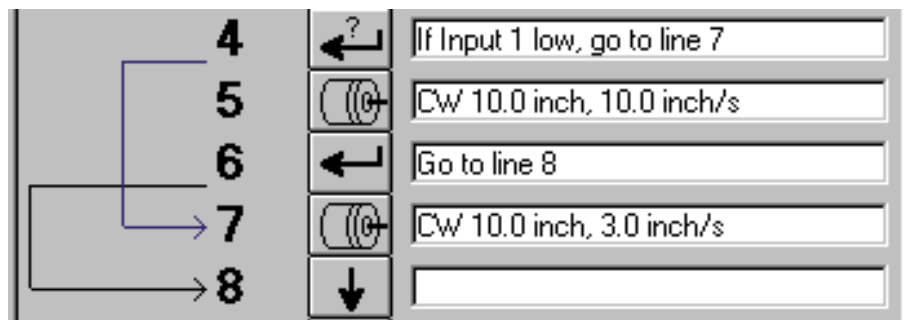

Figure 71
2. It allows a parameter to be changed such as distance or speed based on an input. Consider the example above. How will the cut-off saw know how fast to go when the switch is set for "Aluminum" or "Steel?" The same switch that controls the movement of the saw could be wired to the MSS. This time, the program is written as shown in Figure 71.